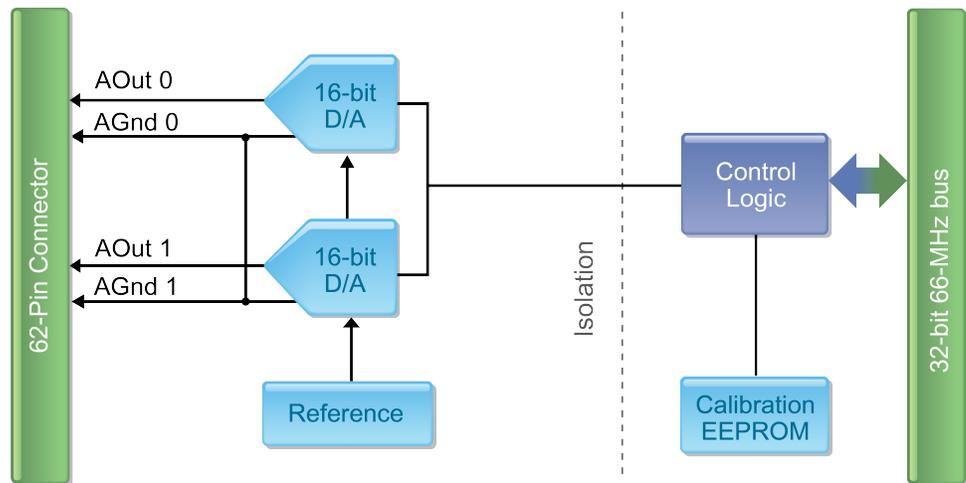

Figure 2-7 Block Diagram of UEI-PIO-1010 Analog Output
2.3.2 Analog Output As shown in **Figure 2-7**, the UEI-PIO-1010 is equipped with two analog output channels. Each channel may be independently configured to output either voltage or current through its own dynamic 16-bit D/A converter. All analog input and output channels share the same ground and same reference but are isolated from the control logic. The FPGA writes to both DACs simultaneously and the two output channels are synchronized within 1.5 μ s.